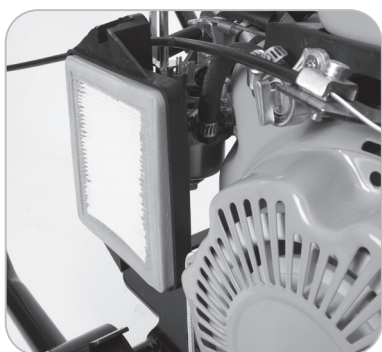

Fig. 17
- Remove the Air Filter Element from the housing for inspection. **(Fig. 17)** If the paper element of the air filter shows signs of severe discolouration and logging by dirt, dust etc it should be replaced.